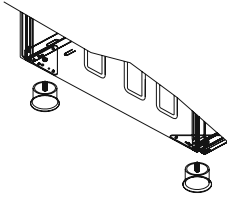
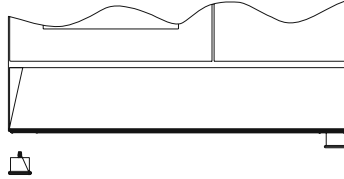

Figure 10
Figure 11
- Foot attachment lath is installed on the oven from the bottom of the oven as shown in (figure 10). Nuts are centered on these lathes in order to screw feet. Complete the feet installation process by screwing the feet to the nuts (figure 11).